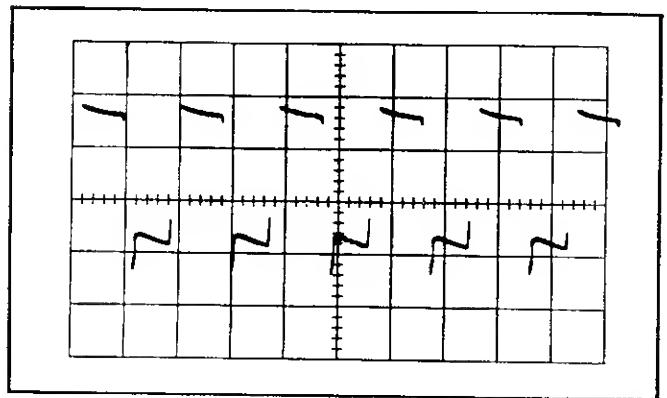

Fig. 2-3. Chopped blanking check with Crt Cathode Selector switch at Chopped. Vertical switching lines are blanked.
4. Set the oscilloscope Crt Cathode Selector switch to the Chopped Blanking position and check that the fast rising and falling portions (switching portions) of the display are blanked so that only the "on" segments of each trace are visible (Fig. 2-3).